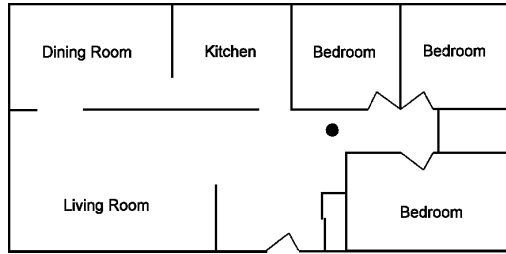

Figure 1: A SMOKE ALARM SHOULD BE LOCATED BETWEEN THE SLEEPING AREA AND THE REST OF THE FAMILY LIVING UNIT.
*Where to Locate the Required Smoke Detectors in Existing Construction.* The major threat from fire in a family living unit is at night when everyone is asleep. The principal threat to persons in sleeping areas comes from fires in the remainder of the unit; therefore, a smoke alarm(s) is best located between the bedroom areas and the rest of the unit. In units with only one bedroom area on one floor, the smoke alarms should be located as shown in Figure 1.